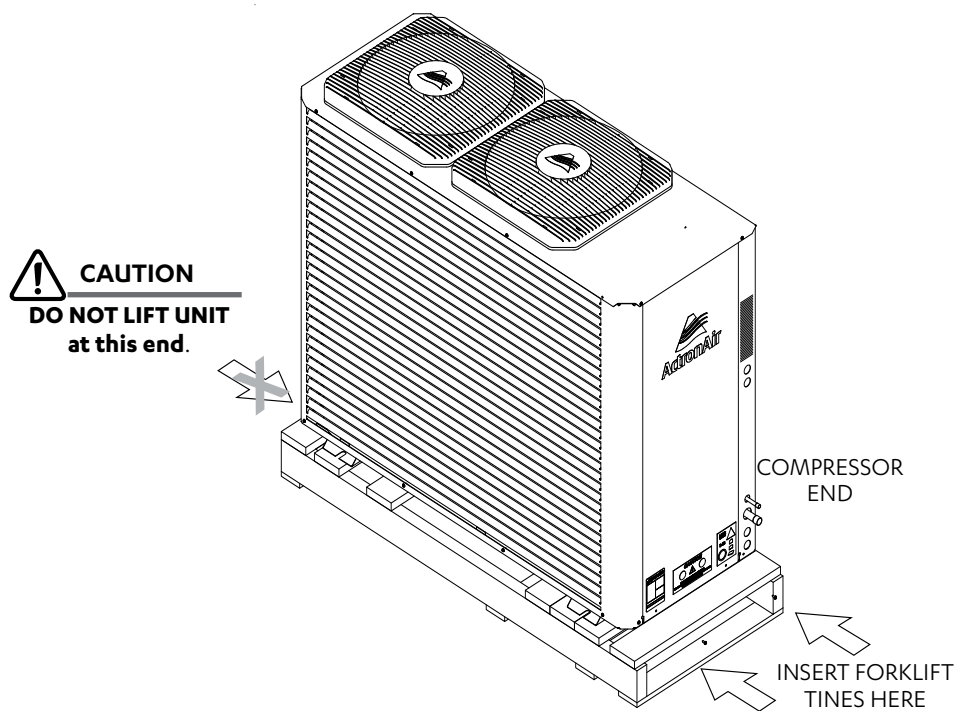

FIG.2
1. To move the unit around with a forklift, insert the fork tines through the pallet, as shown in Fig. 2.